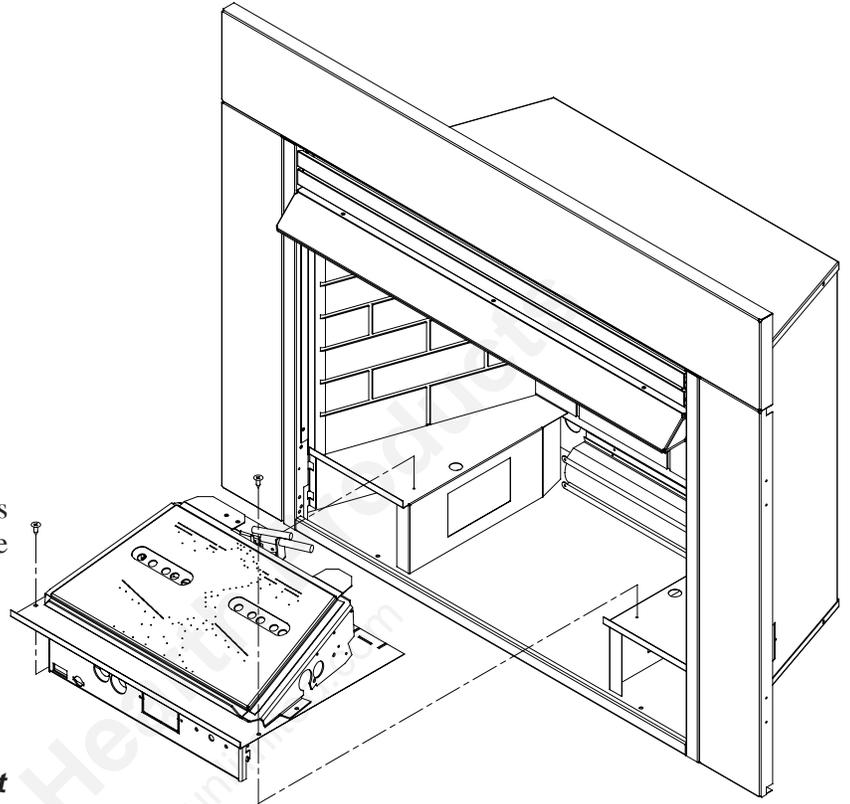

Figure 15 - Removing Grate and Base Assembly
3. To remove the grate and base assembly, take out two screws as shown in *Figure 15*.